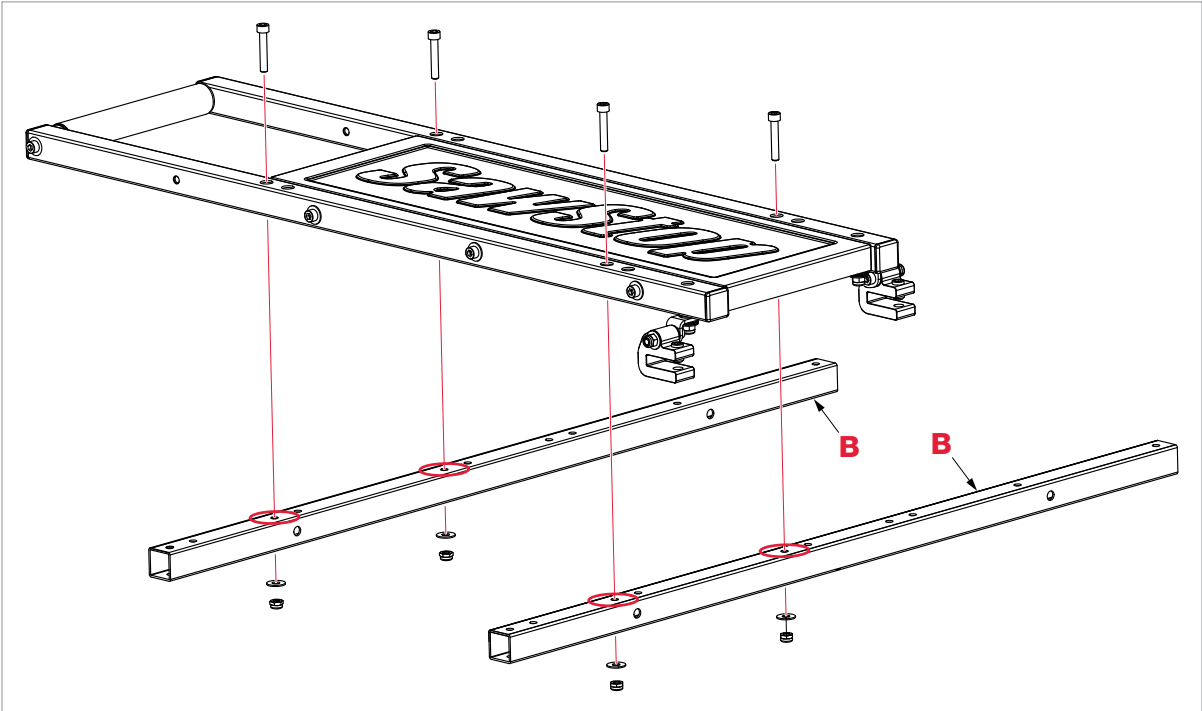

Fig. 44
- 13** Position the two table tubes attached to the insert table across the two table support tubes, as shown in **Fig. 44 on page 42**, with the insert table and rear rail clamps on the end closest to the table saw.